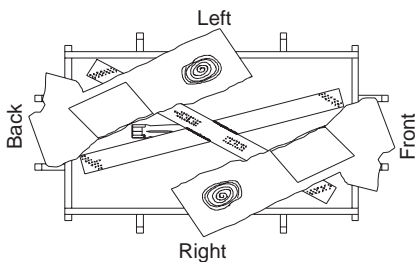

Figure 45 - Installing Logs "A" (Top View)
8. Place logs "A" as shown in Figure 45, page 19.